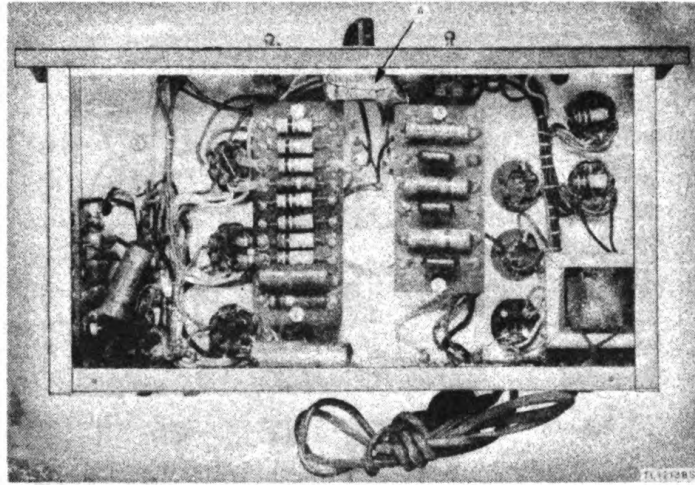
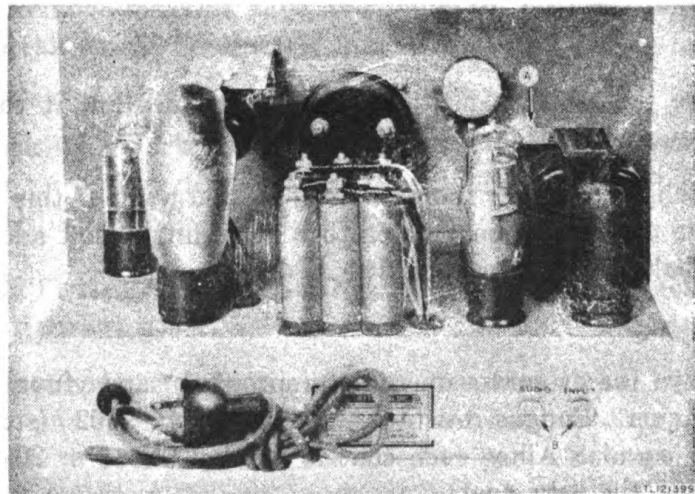

Figure 8. Bottom view of frequency meter section, showing method of masking.
Figure 9. Rear view of frequency meter section, showing method of masking.
(1) Either remove the tubes and cover the sockets with masking tape or, if the tubes are left in the set, be sure prongs are kept clean of varnish. Varnish on the base or envelope of the tube will not affect its operation.
(2) Cover the frequency meter range switch (A, fig. 8), the phone jacks (B, fig. 9), and the metal contacts of the push-button switch (A, fig. 9) of the frequency meter section with masking tape.